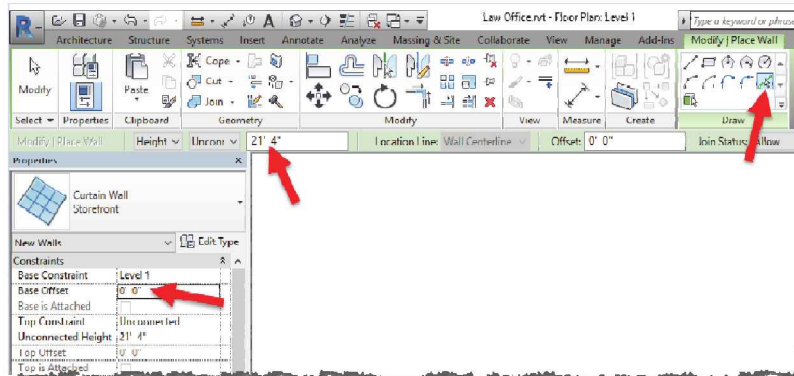

FIGURE 5-4.30A Curved Storefront – UI settings
41. Place the curved curtain wall (Figure 5-4.30A):